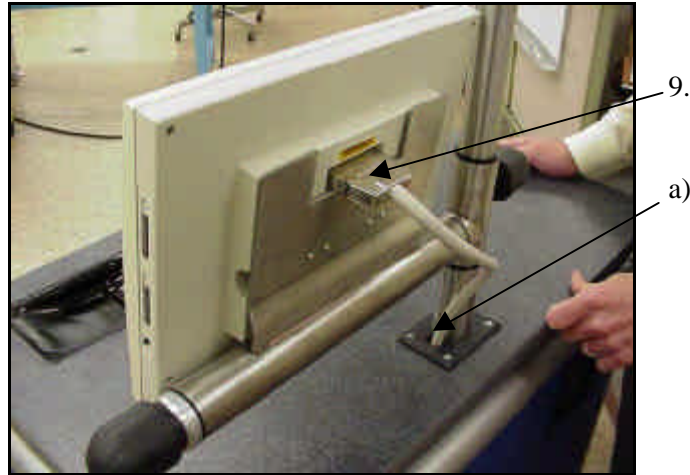

Figure 11: Gray video cable connected to monitor
- 9. Connect the gray video cable (50-pin connector) to the connector located in the back of the monitor (**Figure 11**).